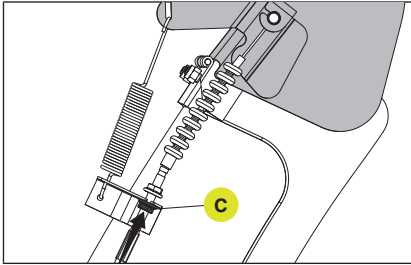

Figure 47
4. Rotate the lower nut (C) clockwise to move the nut upwards toward the bracket to remove cable slack. Stop turning the nut when you feel the cable is engaged against the return spring, and just before the deflector starts moving down. If the deflector moves down a bit, then turn the lower nut counterclockwise away from the bracket to engage the spring, without moving the deflector downwards. (Fig. 47)